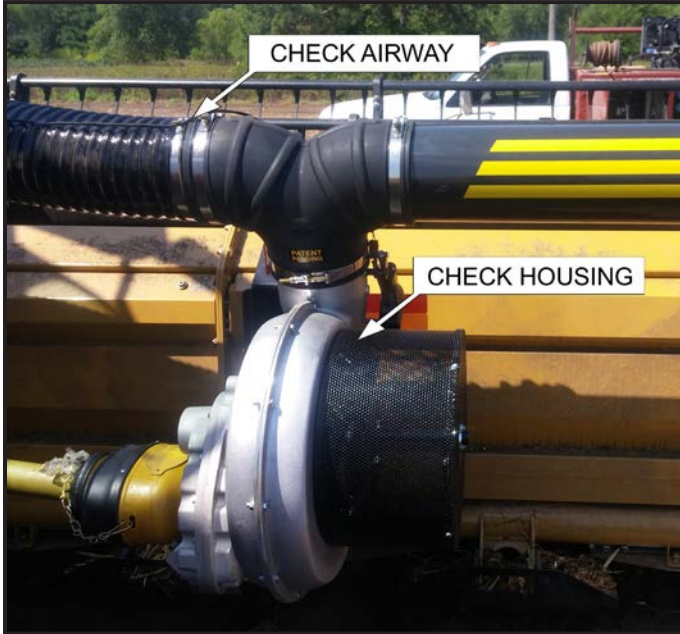
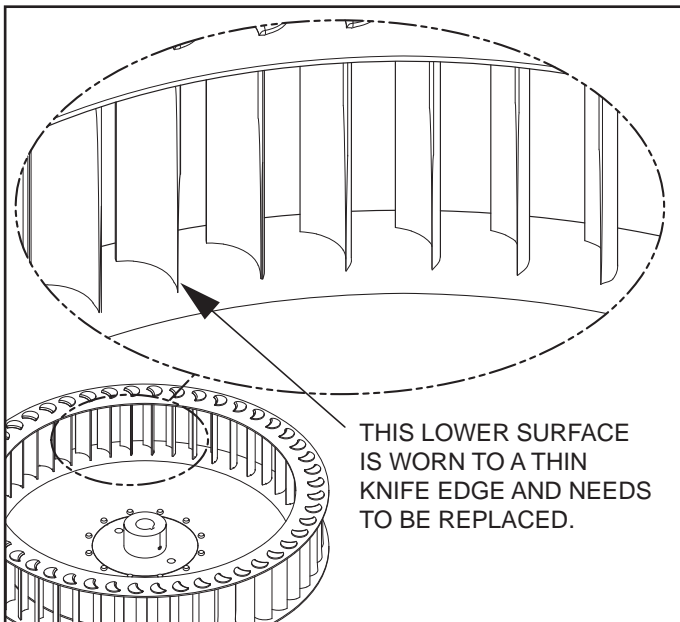

Figure 43: Fan airway
Figure 46: Critically worn impeller blades
1. Every 40 hours the fan housing, blades and airway (Figure 43 and Figure 46) should be checked for wear.